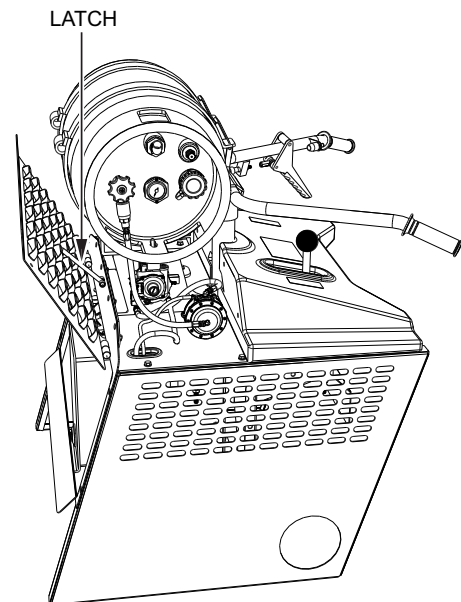

Figure 43. Securing Access Cover Latch
7. Lift up on access door and secure latch (Figure 43).